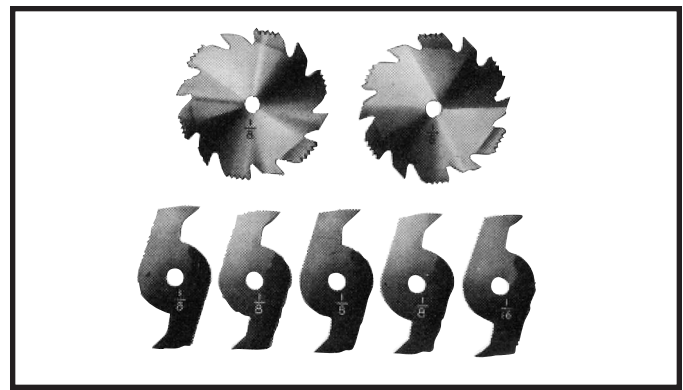
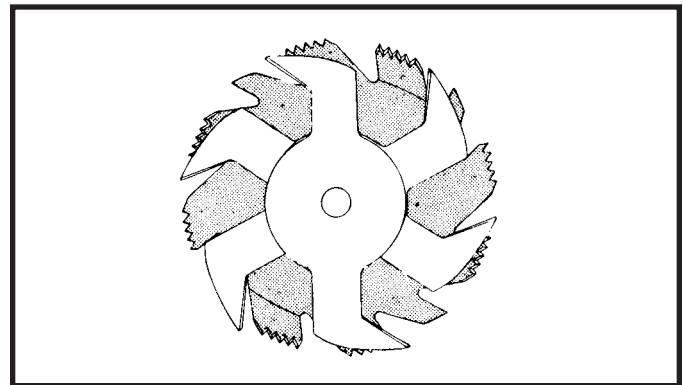
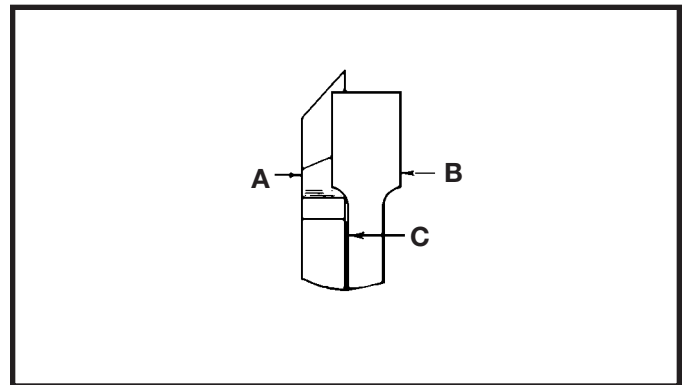

Fig. 64
Fig. 65
Fig. 66
Dadoing is cutting a rabbet or wide groove into the work. Most dado head sets are made up of two outside saws and four or five inside cutters, as shown in Fig. 64. Various combinations of saws and cutters are used to cut grooves from 1/8" to 13/16" for use in shelving, making joints, tenoning, grooving, etc. The cutters are heavily swaged and must be arranged so that this heavy portion falls in the gullets of the outside saws, as shown in Fig. 65. The saw and cutter overlap is shown in Fig. 66, (A) being the outside saw, (B) an inside cutter, and (C) a paper washer or washers which can be used as needed to control the exact width of groove. A 1/4" groove is cut by using the two outside saws. The teeth of the saws should be positioned so that the raker on one saw is beside the cutting teeth on the other saw.